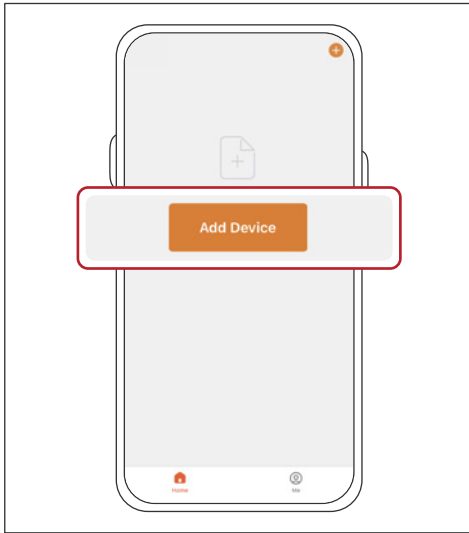

Fig.18
- 5 Click "ADD" to add the generator (see Fig.18).